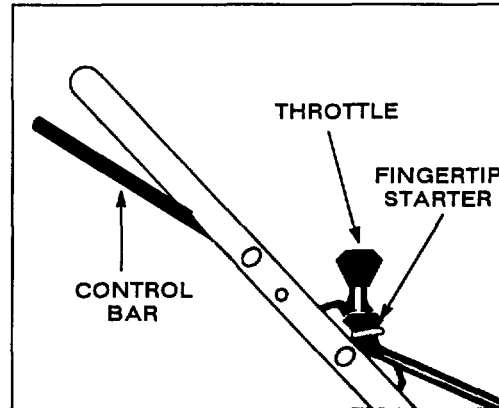

Figure 11
STARTING AND STOPPING (Fig. 11)
1. CONTROLS—Throttle and control bar are on upper handle (Fig. 11).